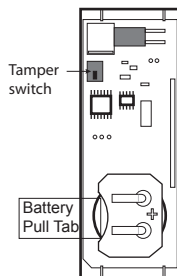

Figure 3
- 3 Plug two-pin connector into J1 (see Figure 3).
- 3 Press and release the tamper switch (SW1) on the sensor until the panel responds (see Figure 3).
- 2 Place a small flathead screwdriver in the slot between the metal clip (see Figure 3) and the battery and push it out taking care not to scratch the battery terminal on the PCB.
- 3 Insert the replacement battery with the + sign facing out (see Figure 3).